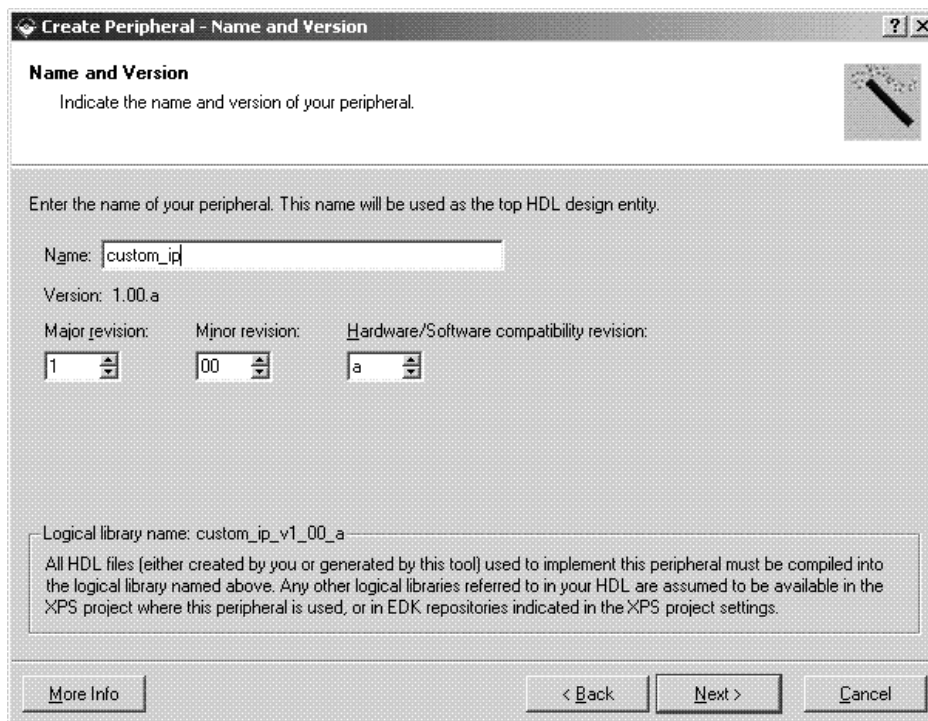

Figure 12: Create Peripheral - Name and Version
- Click **Next**. In the Create Peripheral – Name and Version dialog, enter custom_ip as the name of the peripheral. This is shown in Figure 12.